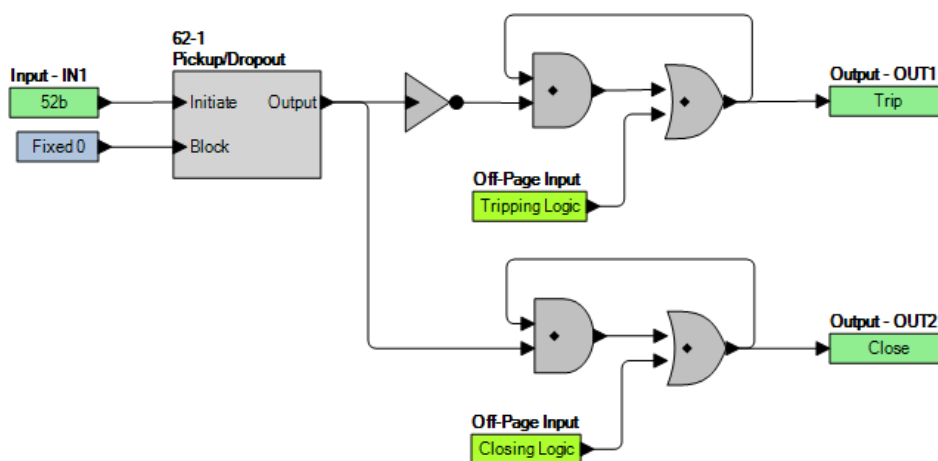

Figure 4-6. Contact Output Seal-In Logic Diagram
To prevent the output relay contacts from opening prematurely, a hold timer (200 to 2,000 ms) can be set with BESTCOMS*Plus*. If the protection engineer desires seal-in logic with feedback from the breaker position logic, he/she can provide this logic by modifying the logic for the tripping output. To do this, use one of the general purpose timers (62) and set it for Pickup/Dropout mode. Set the timer logic so that it is initiated by the breaker position input and set the timer for 32 ms pickup and 32 ms dropout. The same can be done for the closing output. Figure 4-6 provides a seal-in logic diagram.